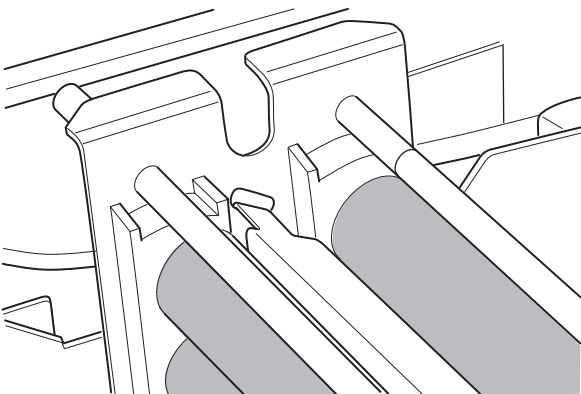
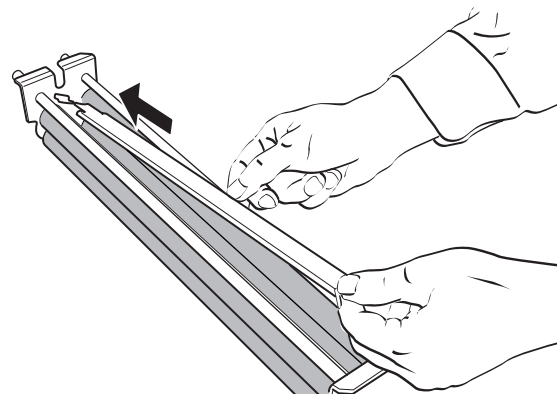

Figure 16
Figure 17
- Take the intermediate wash rack by the handles and lift it out of the tank. In the rack there is a water distribution plate that ensures an even water distribution when the films are being sprayed. Be careful that this plate remains in the correct position in the intermediate wash rack (fig. 16 and fig. 17).